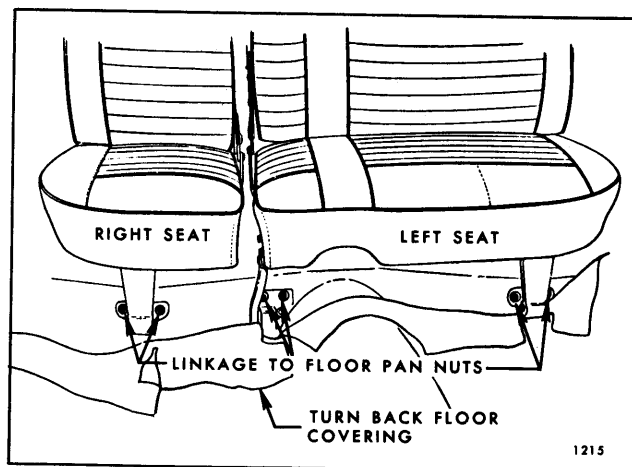

Fig. 15-75—Folding Second Seat Front Linkage
2. Mark location of front linkage support on floor pan to facilitate installation in same position. Support front of seat. Remove bolts securing linkage to seat and nuts securing linkage to floor pan studs (See Fig. 15-75); then, remove front linkage.